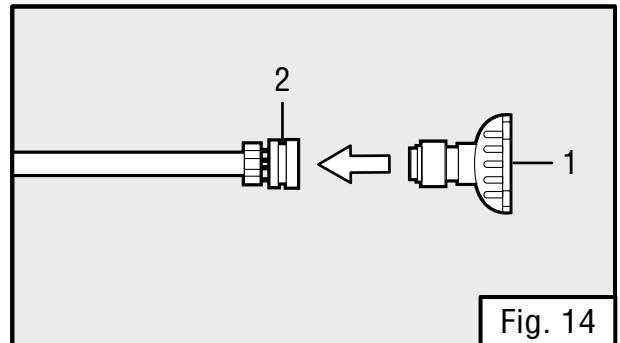

Fig. 14
## USING THE SPRAY NOZZLE (FIG. 14)
1. To connect or disconnect spray tip (Fig. 14 - 1), pull back on the quick-connect collar (Fig. 14 - 2). Insert or remove spray tip then release the collar.